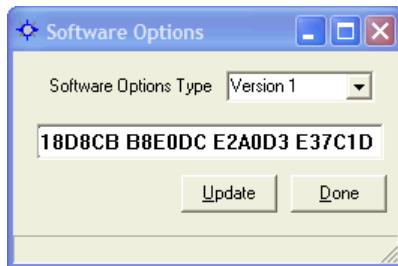

Figure 118: Software Options Window
5. Paste the options code into the *Software Options* window (see example in Figure 118).